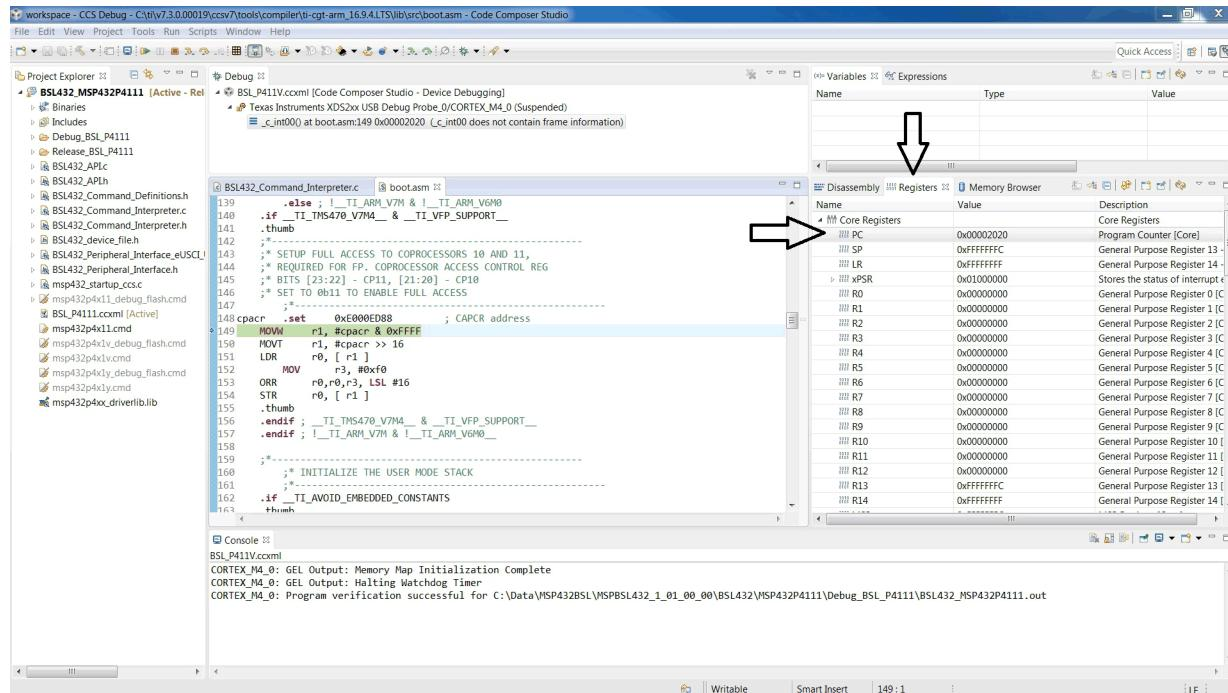

Figure 20. Set PC
11. Go to the Registers view → Core Registers → PC, enter the address 0x2020, and click *Enter* (see Figure 20).